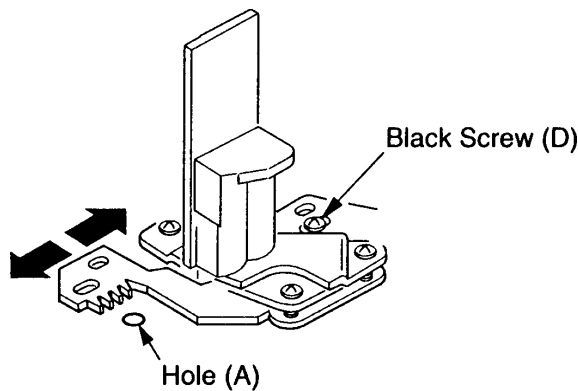

Fig. 13 - A/C Head Horizontal Position Adjustment/Confirmation
A/C Head Horizontal Position Adjustment/Confirmation (Figs. 13, 14)
5. If adjustment is necessary, slightly loosen the black screw (D) (Fig. 13). Insert the H-position adjustment screwdriver into hole (A) and adjust slightly in both directions to find the point of maximum envelope.
9. If the number of button presses in steps six (6) and eight (8) are not equal, slightly readjust using the H-position adjustment screwdriver (hole A) and then repeat steps six (6) through eight (8).
10. Tighten the black screw (D) and remove the jumpers.